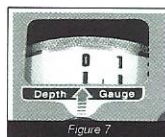

Figure 7
- Set the Depth Gauge (Figure 7) at ZERO.